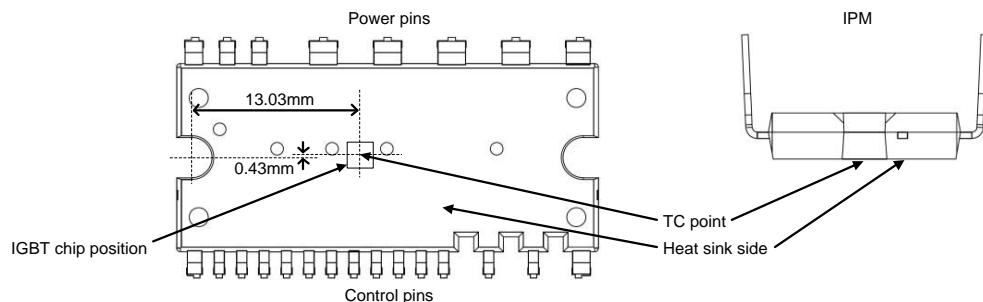

Figure 1. T_c Measurement Point
- For the measurement point of case temperature (T_c), please refer to Figure 1.